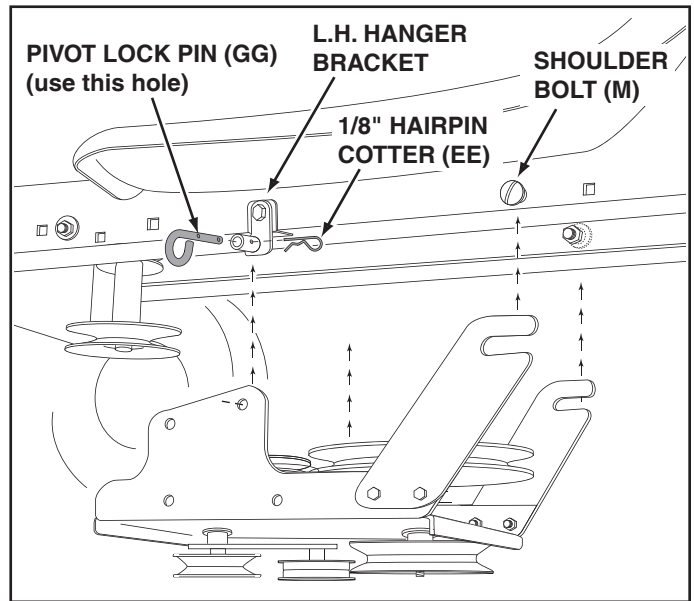

FIGURE 12 VIEWED FROM LEFT SIDE
STEP 12: (SEE FIGURE 12)
- Attach the clutch/idler assembly to the tractor frame. Hook the notched suspension arms onto the two shoulder bolts (M) assembled to the outside of the tractor frame. Lift the front of the assembly and attach it to the R.H. and L.H. hanger brackets using two pivot lock pins (GG) and 1/8" hairpin cotters (EE).